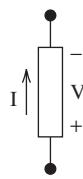

FIGURE P2.18 Image for Problem 2.18.
- 2.18** (B) True/false: The notation in Figure P2.18 conforms to passive reference.